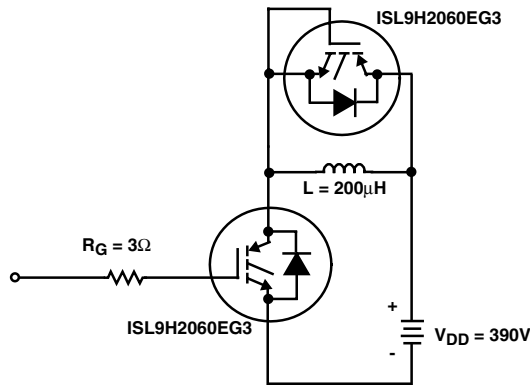

FIGURE 26. INDUCTIVE SWITCHING TEST CIRCUIT
| Current Turn-On Delay Time | $t_{d(ON)I}$ | IGBT and Diode at $T_J = 25^\circ\text{C}$ $I_{CE} = 20\text{A}$ $V_{CE} = 390\text{V}$ $V_{GE} = 15\text{V}$ $R_G = 3\Omega$ $L = 200\mu\text{H}$ Test Circuit - Figure 26 | - | 10 | - | ns |
| Current Turn-On Delay Time | $t_{d(ON)I}$ | IGBT and Diode at $T_J = 125^\circ\text{C}$ $I_{CE} = 20\text{A}$ $V_{CE} = 390\text{V}$ $V_{GE} = 15\text{V}$ $R_G = 3\Omega$ $L = 200\mu\text{H}$ Test Circuit - Figure 26 | - | 12 | - | ns |
- Values for two Turn-On loss conditions are shown for the convenience of the circuit designer. E_{ON1} is the turn-on loss of the IGBT only. E_{ON2} is the turn-on loss when a typical diode is used in the test circuit and the diode is at the same T_J as the IGBT. The diode type is specified in Figure 26.